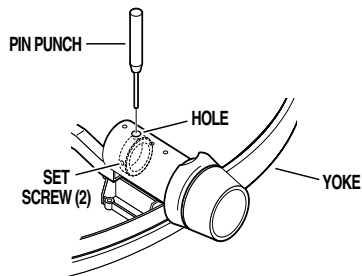

Figure 2-3. Lighthouse Pitch Adjustment
b. The lighthouse should move freely yet maintain its position without drifting. If an adjustment is required, remove the top cover, refer to figure 2-3 and proceed as follows: